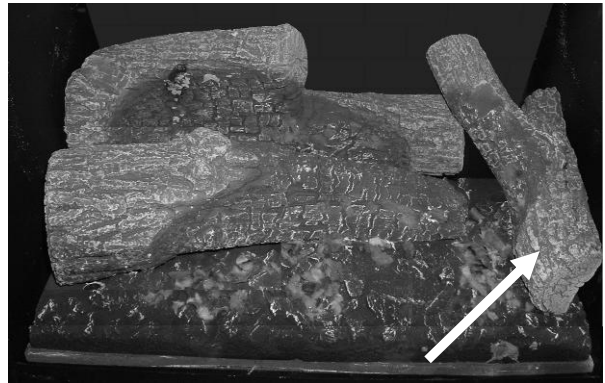

Figure 35 – Log 3 Position
4. Place log 3 onto the end of log 1 as shown as shown in Figure 35.